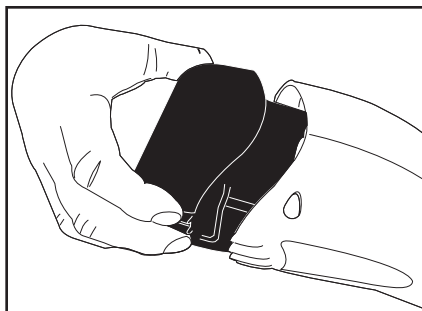

Figure 8
1. Depress the spring-loaded buttons on both sides of the battery simultaneously. (see figure 8)